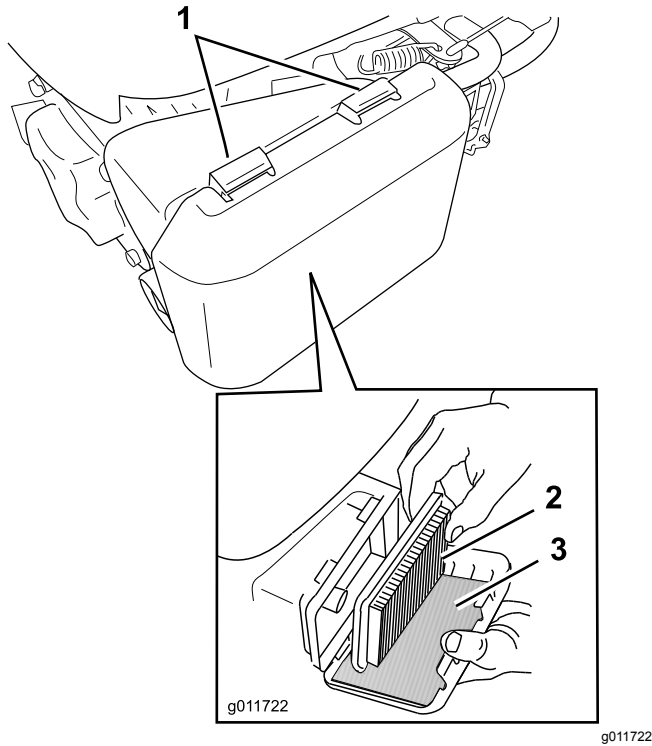

Figure 23
1. Press down on the latch tabs on top of the air-filter cover (Figure 23).
3. Remove the paper air filter and the foam pre-filter (Figure 23).